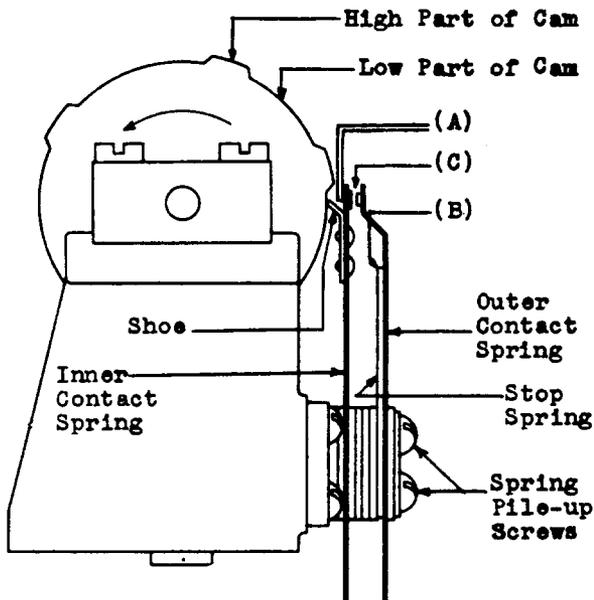

Fig. 3 - Low-speed Cam Assembly
2.07 Pressure of Cam Shoe on Cam: Fig. 3(A)—The pressure of the shoe of the inner contact spring against the *low* part of the cam, measured at the top of the inner contact spring, shall not exceed 25 grams.
Fig. 3(B) — With the shoe of the inner contact spring on the *low* part of the cam, the outer contact spring shall rest on the stop spring, at least at the free end of the stop spring.
2.09 Contact Separation: Fig. 3(C) — With the shoe of the inner contact spring on the *low* part of the cam, the separation between the contacts of the inner and outer springs shall be